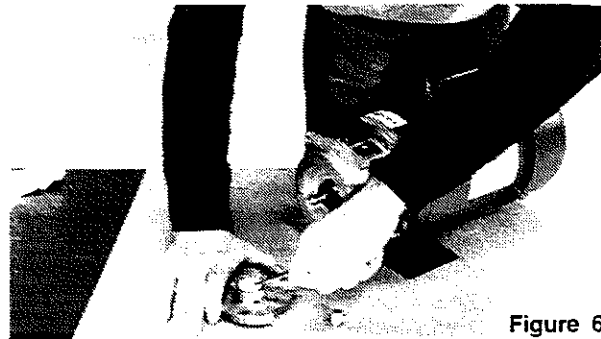

Figure 6
4. The seat of the seal can now be removed from the impeller (Fig. 6).